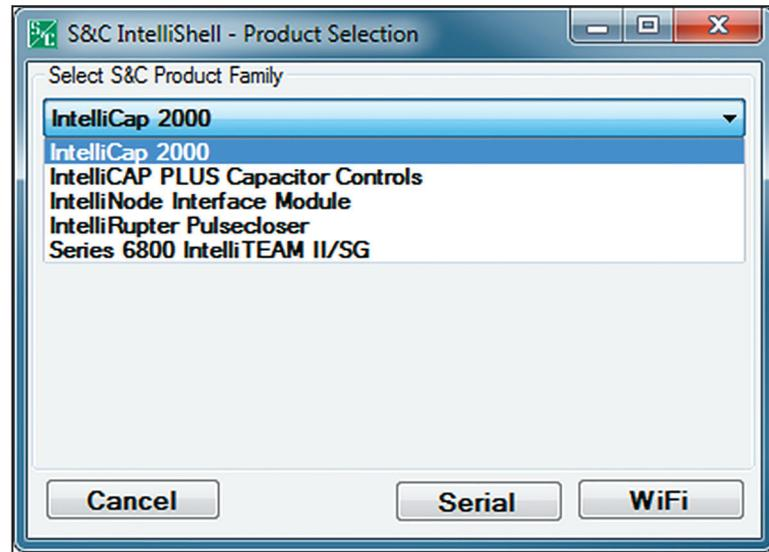

Figure 12. The IntelliShell connection program—Product Family selection dialog box.
STEP 5. Select the **IntelliCap 2000** option from the **Product Family** menu, and select either the **Serial** or the **Wi-Fi** button. See Figure 12.